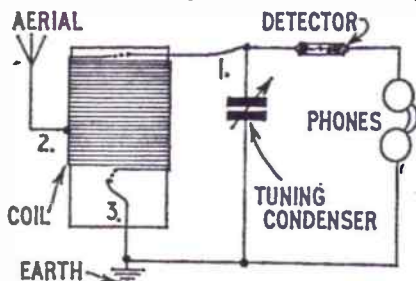
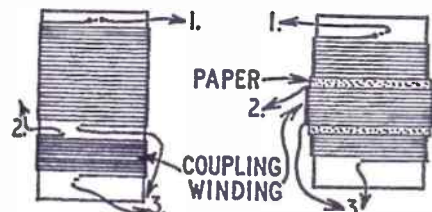

Fig. 1—A receiver circuit
Fig. 2—Aerial coupling windings
Fig. 1 shows a typical crystal set circuit, which can be made up for
With simple circuits, the aerial is often taken to the upper end of the coil, point (1) in Fig. 1. This gives best volume, but flat tuning. Taking the aerial to a tapping on the coil, point (2), will sharpen tuning. Point (3) is the other end of the coil, connected to Earth.
If the tube is long enough, the coupling winding can be wound on it, near the original winding. If there is no space for this, a layer of insulation, such as stout brown paper, can be put over the original winding, and the coupling winding can be placed on top of this. Both these methods are shown in Fig. 2.
Connections to the original winding are not changed: (1) going to detector, and (3) to earth, as in Fig. 1. One end of the coupling winding, point (2) in Fig. 2, forms the aerial connection. The other end, point (3), also goes to earth.
The gauge of wire used is not important, but 32 to 36 SWG will be convenient. About one-third the number of turns on the original coil will be satisfactory. That is, about 27, with a 80 turn coil. Using fewer turns will sharpen tuning more, but will reduce volume, exactly as moving the tapping (2) towards point (3) in Fig. 1.